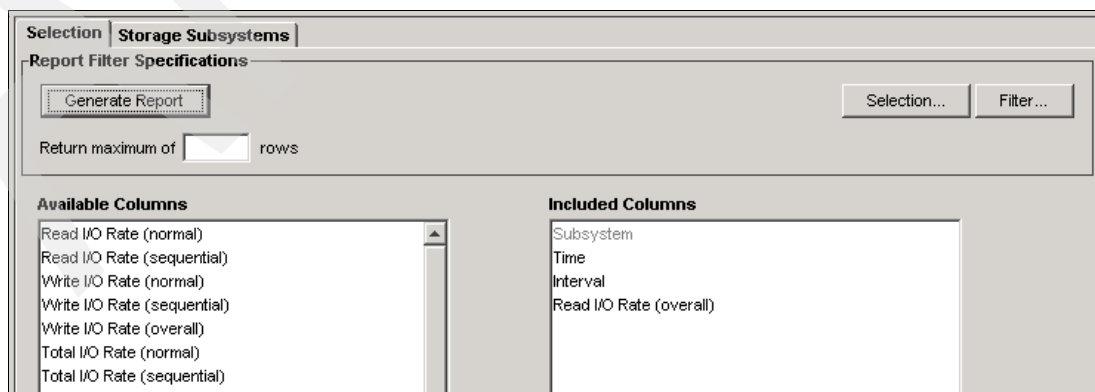

Figure 9-29 Selection of performance metrics
- In our example, we click the **Selection** tab because we want to generate a report that compares the overall read I/O rate of the DS5020 and the DS5300. Move to the Included column the performance metrics (Time, Interval and Overall Read I/O rate) you want to include in the report, as shown in Figure 9-29.